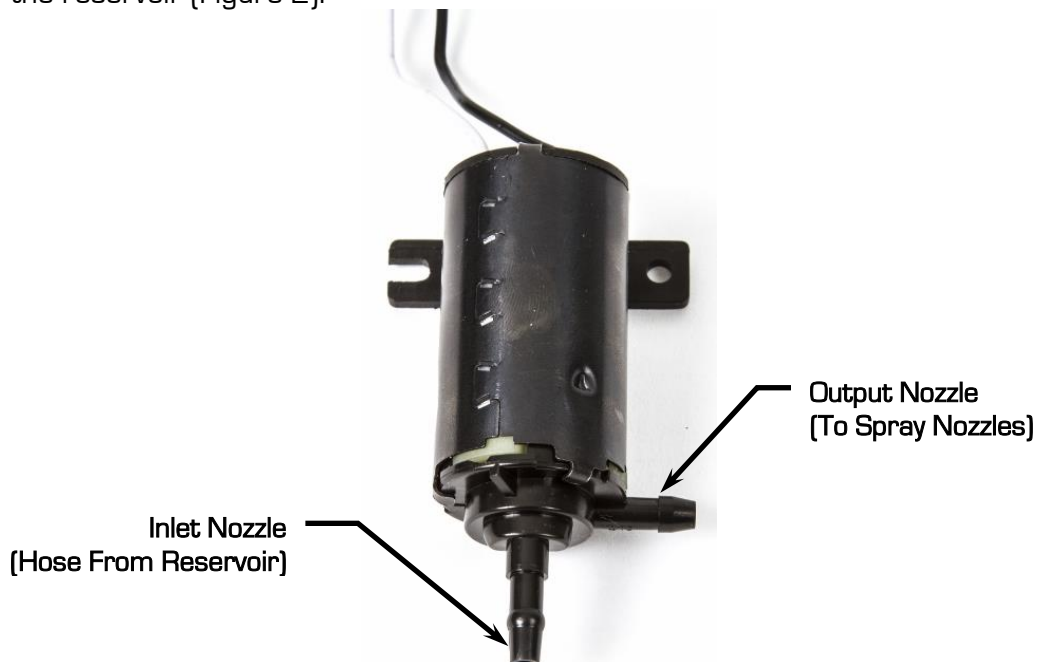

Figure 2 - Connect Hoses to Washer Pump
6. Connect the hose going to the windshield spray nozzles to the output nozzle of the washer pump. Use the provided hose to go between the inlet nozzle of the pump and the reservoir (Figure 2).